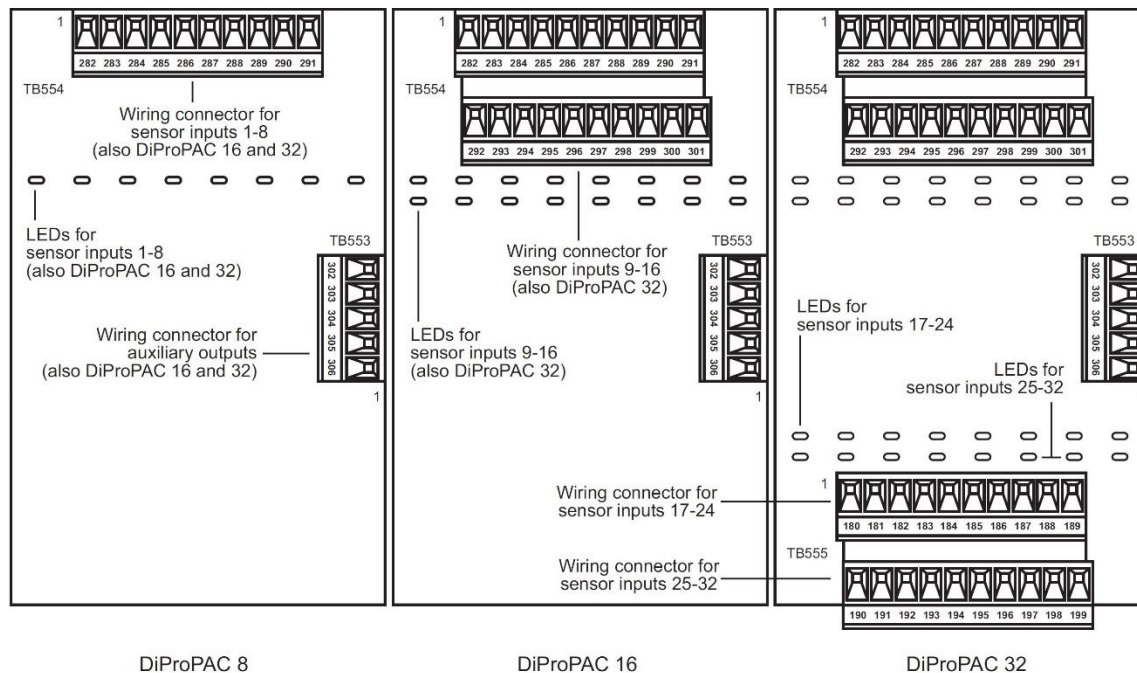

Figure 2-12. DiProPAC Boards (8-, 16-, and 32-Sensor): Location of Components
6. Remove the connector(s) from the board, one connector for an 8-sensor or 8-cam unit, two connectors for a 16-sensor or 16-cam unit, four connectors for a 32-sensor unit. Terminal block assignments for these different boards are as follows. See Figure 2-12.